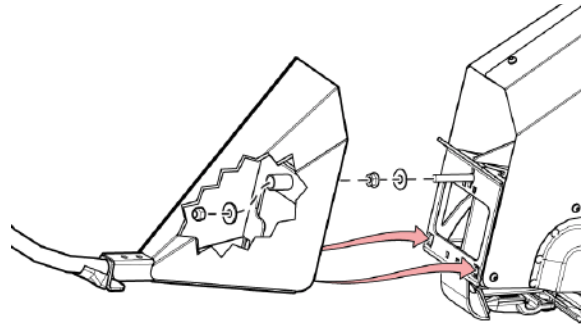

Fig. 39 - Install Crop Divider
Ensure the crop dividers are properly installed & free from material buildup. (See Fig. 39 on page 39)
- ☐ Ensure the crop dividers are properly installed & free from material buildup. (See Fig. 39 on page 39)